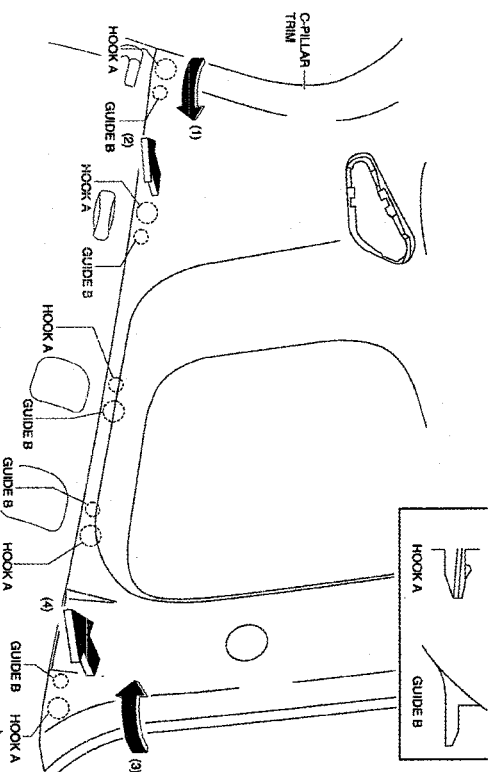

FIGURE 43
- 5.) PULL THE TRUNK SIDE TRIM IN THE DIRECTION OF ARROWS (1), (2), (3), AND (4). REMOVE CLIPS C AND PIN D. (SEE FIGURE 43)